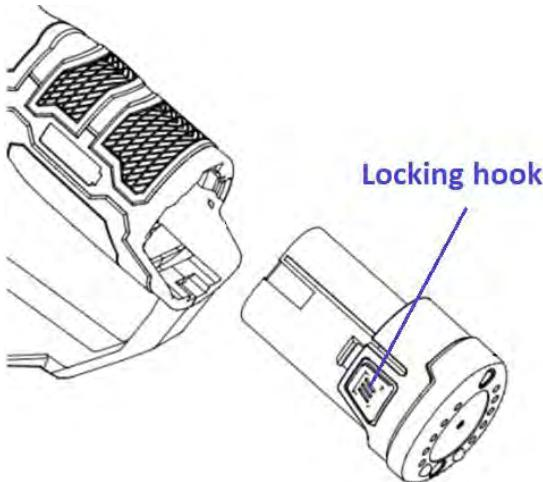

Fig. 3
#### Removing and installing the battery (Fig. 3)
- To install the battery, align the battery with the tool as illustrated in Fig. 3, then insert into the battery compartment until an audible click sound is heard.